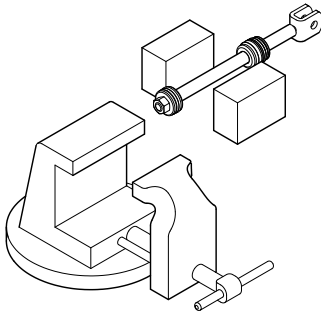

Figure 5-3, Cylinder Shaft
4. Clamp the rod assembly in a soft jawed vise on the wrench flats, not on the rod surface. If the rod does not have wrench flats use two pieces of wood on both sides of the rod to prevent scaring. (Figure 5-3)